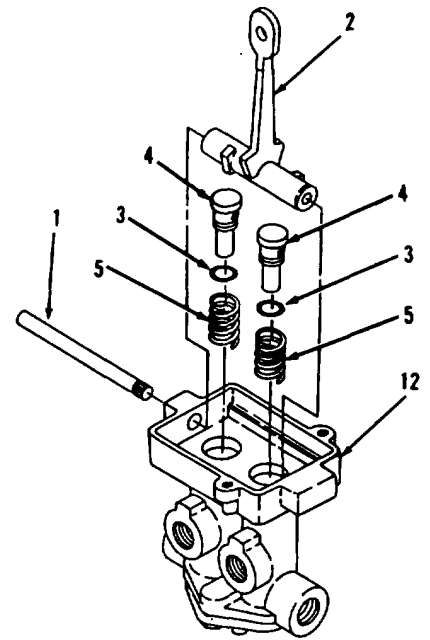
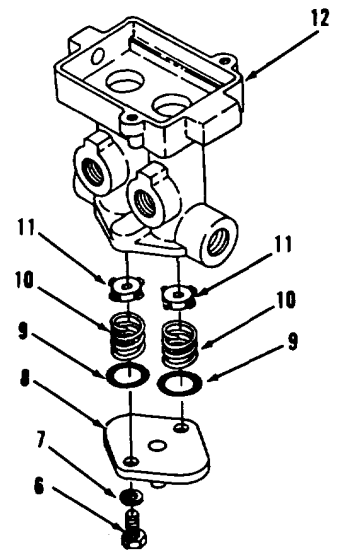

Figure 12-28.
Figure 12-29.
1. Remove pin (1), lever (2), two plungers (4) from valve body (12, Figure 12-28).
2. Remove and discard two preformed packings (3) from two plungers (4).
3. Remove two springs (5).
4. Remove two bolts (6), washers (7) and cover (8) from valve body (12, Figure 12-29).
5. Remove and discard two preformed packings (9).
6. Remove two springs (10) and valves (11) from valve body (12).
1. Install two valves (11) and springs (10) in valve body (12, Figure 12-29).
2. Install two new preformed packings (9).
3. Install cover (8), two washers (7) and bolts (6) in valve body (12).
4. Install two springs (5, Figure 12-28).
5. Install two new preformed packings (3) on two plungers (4).
6. Install two plungers (4), lever (2) and pin (1) in valve body (12).